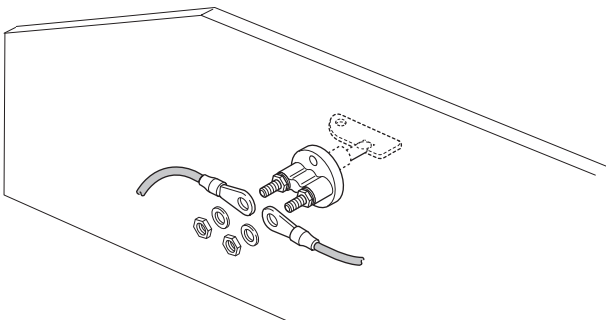
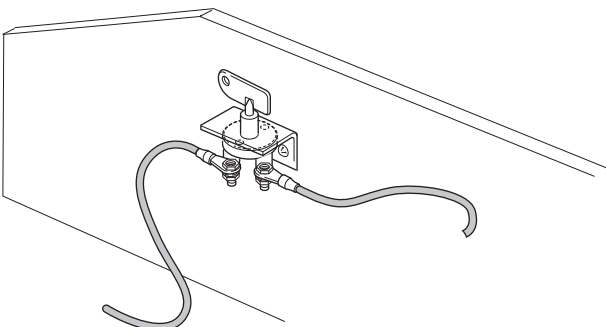

Fig. 46
Fig. 47
- ▶ Select a suitable mounting option for the battery cut-off switch (see installation examples Fig. 46, Fig. 47).